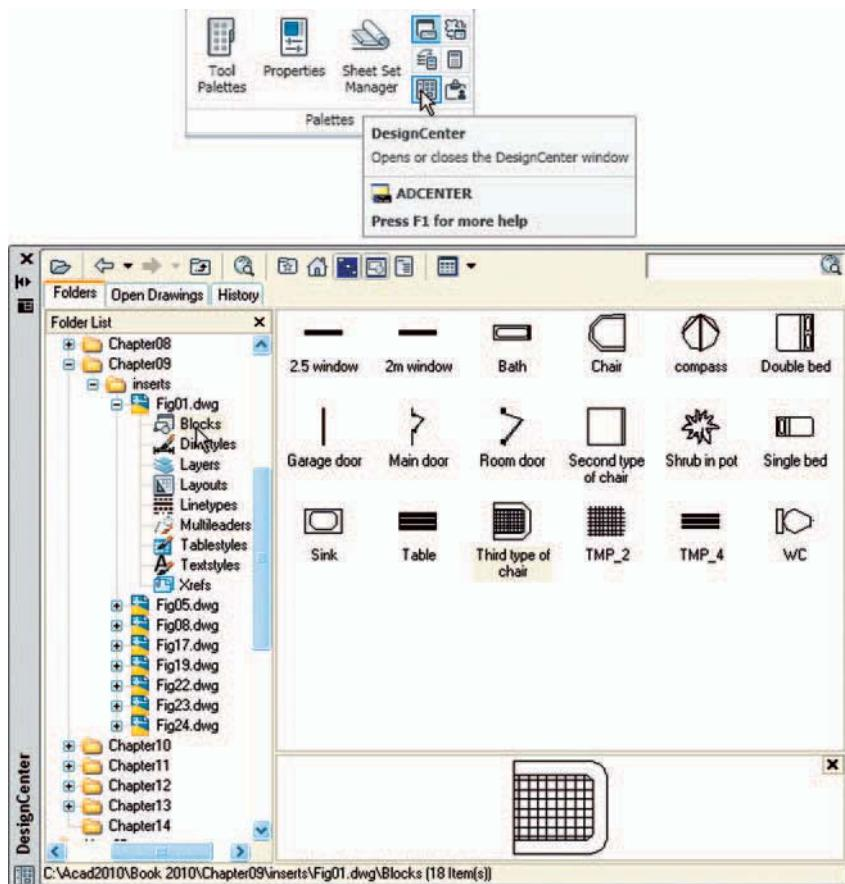

Fig. 1.11 A left-click on the **DesignCenter** icon brings the **DesignCenter** palette to screen
- **DesignCenter** palette: Fig. 1.11 shows the **DesignCenter** palette with the **Block** drawings of building symbols from Fig. 9.1 from which the file **Third type of chair** has been selected.